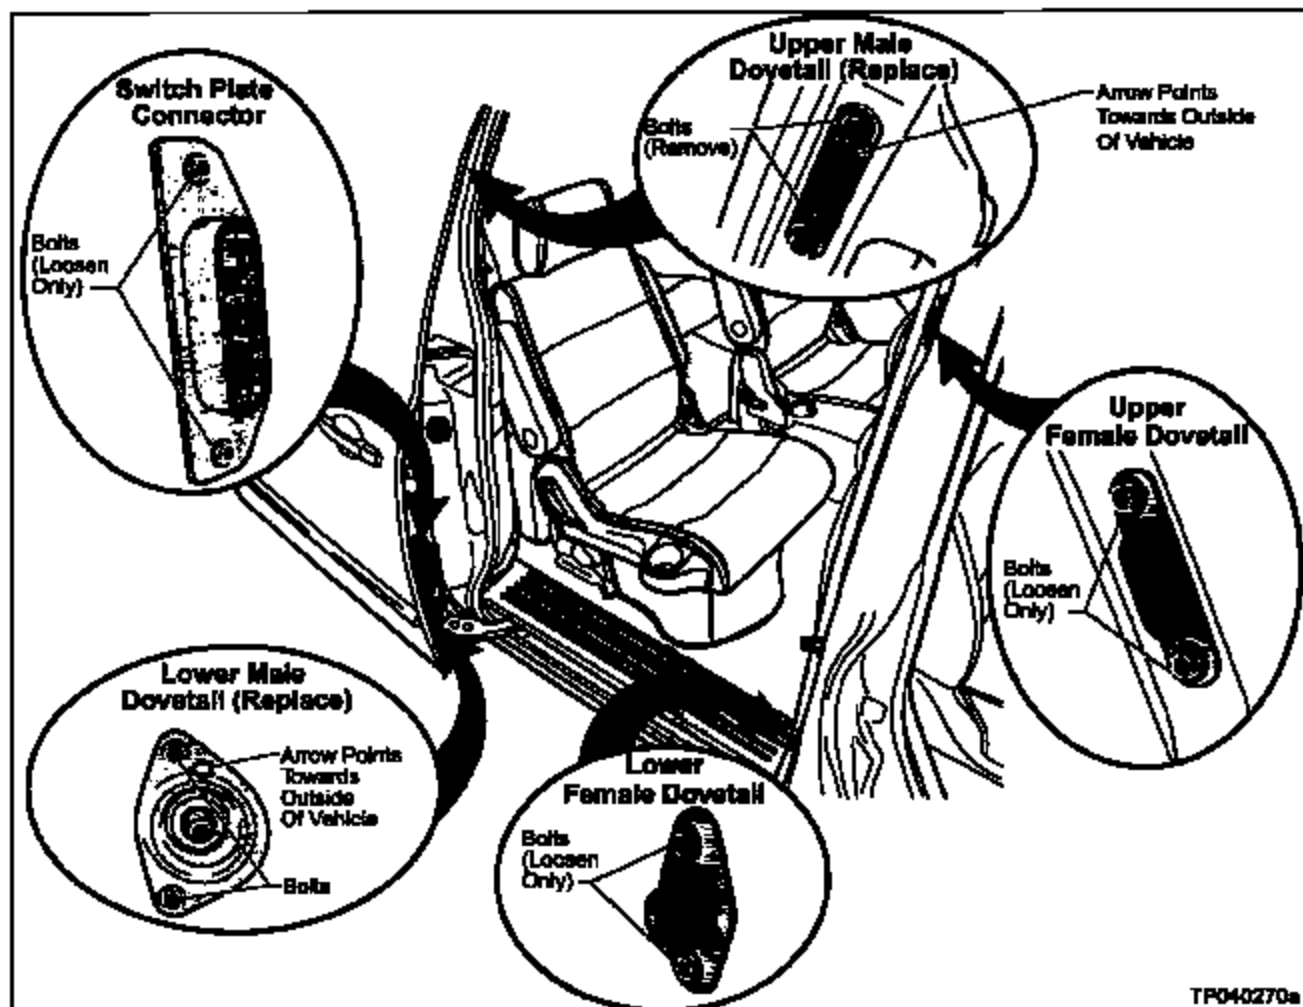

Figure J26
34. Replace both the Upper and Lower Male Dovetails (#4 and #6 in Figure J1) on the front end of the Sliding Door (see Figure J26). Make sure the arrow (on the Dovetails) points towards the outside of the vehicle.
35. Loosen the following 3 items just enough so they are still snug but can re-align themselves when the door is closed and opened (see Figure J26).